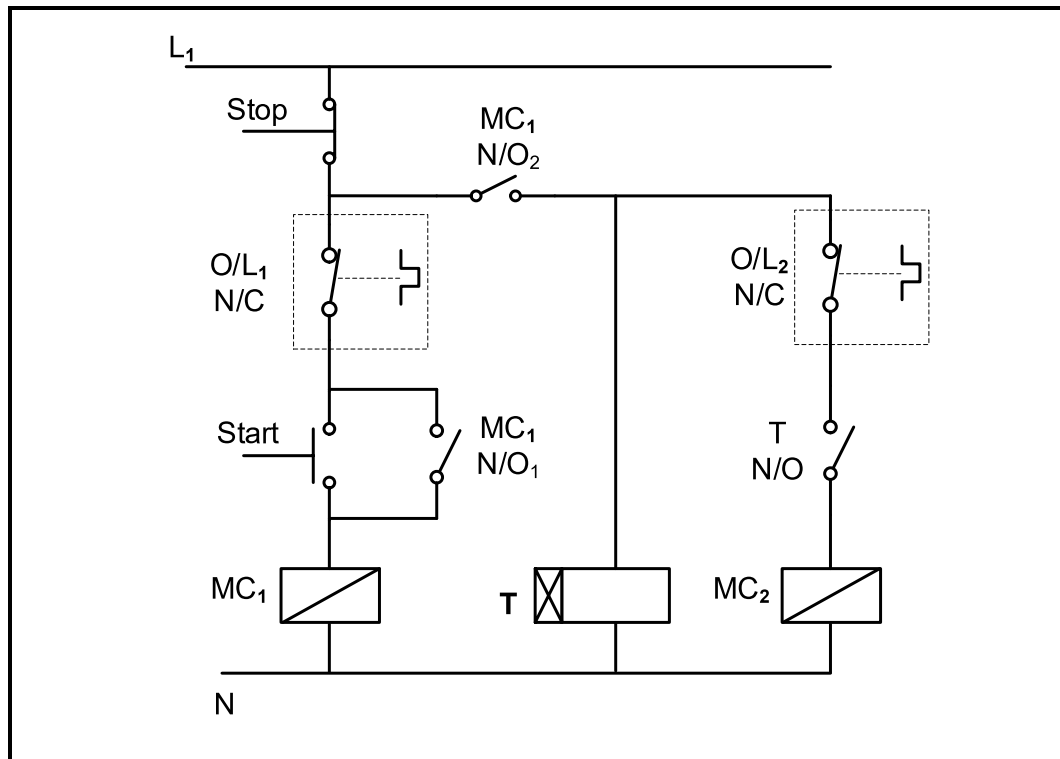
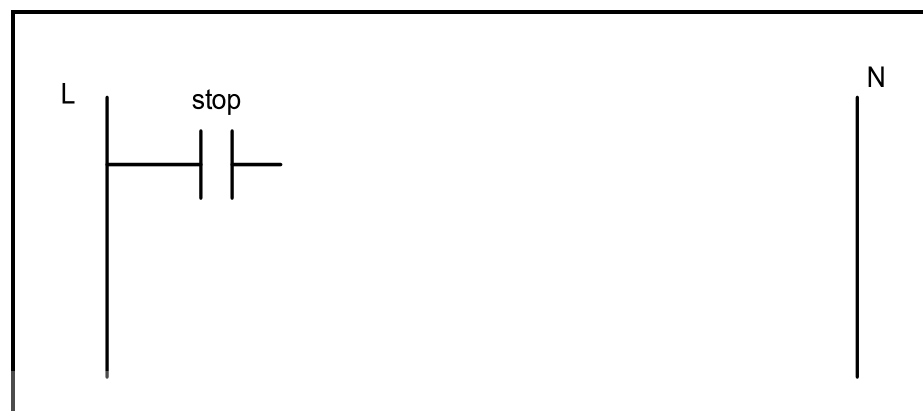

FIGURE 7.5: AUTOMATIC SEQUENCE STARTER
FIGURE 7.5.4
7.5 Refer to FIGURE 7.5 below and answer the questions that follow.
- 7.5.4 In the ANSWER BOOK, redraw the PLC ladder logic diagram in FIGURE 7.5.4 below and complete it so as to execute the same function as the circuit in FIGURE 7.5. above.